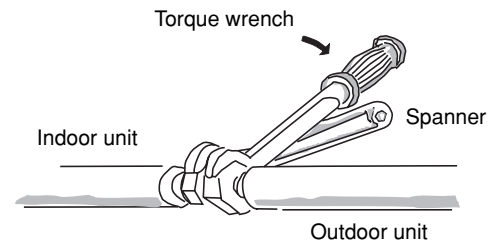

Fig. 52
- Tightly connect the indoor side refrigerant tubing extended from the wall with the outdoor side tubing. (Fig. 52)